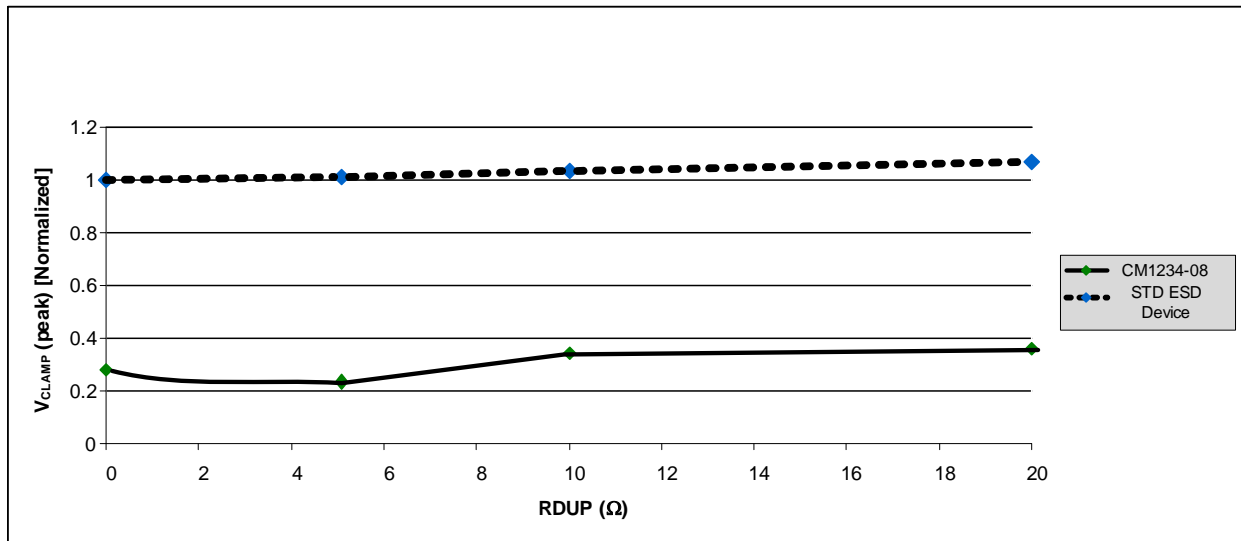
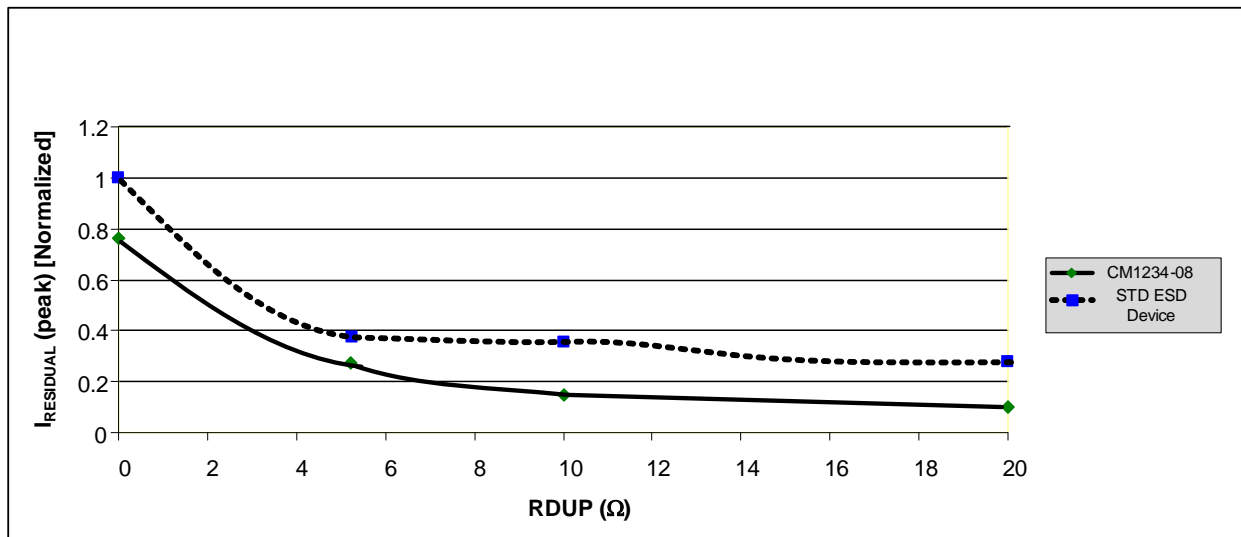
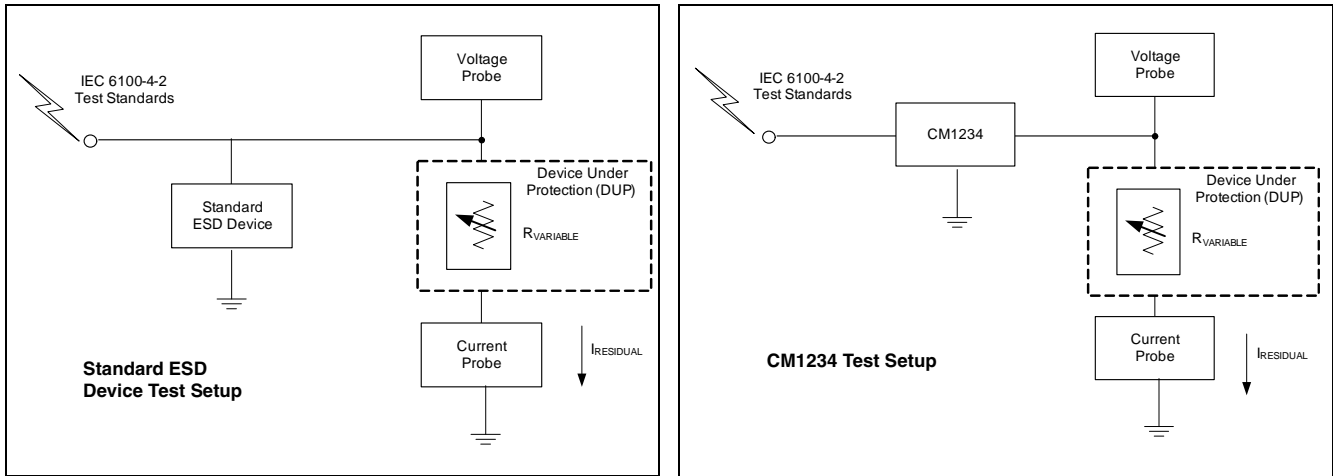

Figure 4. V_{CLAMP} vs. RDUP* (ASIC) – 8kV Contract Strike
Figure 5. I_{RESIDUAL} vs RDUP* (ASIC) – 8kV Contract Strike
Figure 6. Test Setups: Standard Device (Left) and CM1234 (Right)
Figure 4 shows that the CM1234 (*PicoGuard XS* ESD protector) lowers the peak voltage and clamping voltage by 45% across a wide range of loading conditions in comparison to a standard ESD protection device. Figure 5 also indicates that the DUP/ASIC protected by the CM1234 dissipates less energy than a standard ESD protection device. This data was derived using the test setups shown in Figure 6.
* RDUP is the emulated Dynamic Resistance (load) of the Device Under Protection (DUP). See Figure 6.